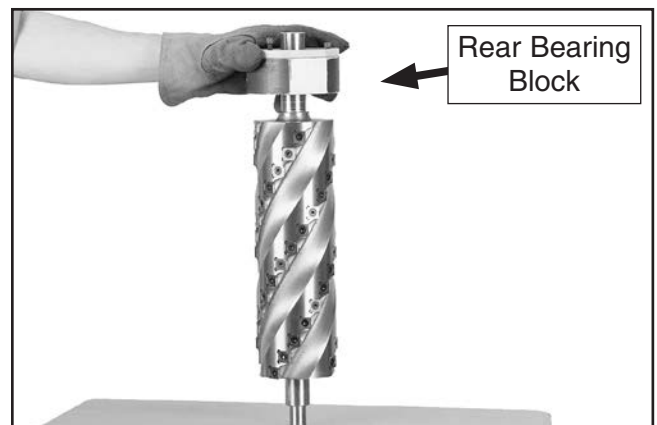

Figure 15. Reinstalling rear bearing block assembly.
- Slide the rear bearing block as far as possible onto the longer length of the cutterhead shaft, as shown in **Figure 15**.